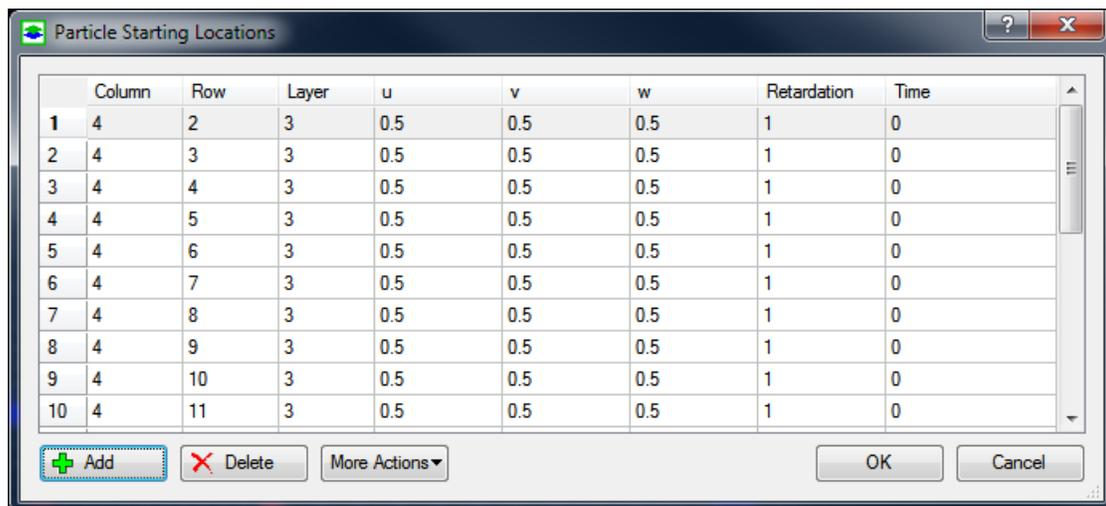

Figure 3.7. The Particle Starting Locations dialog box
2. Select *Create New Object* from the popup menu to display the Particle Starting Locations dialog box (Figure 3.7). The options of the dialog box are as follows.
- *Edit Data*: Click the  button to open the *Particle Starting Locations* dialog box (Figure 3.7) where you can edit the particles.